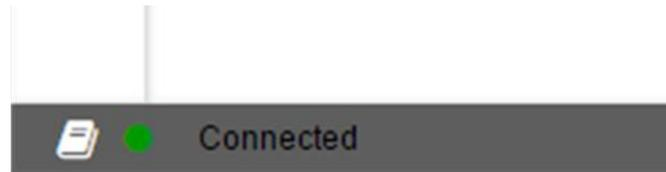

Figure 3. DRV8847x EVM GUI (COM Opened)
Step 6. Make sure that the GUI shows the *Connected* status after the GUI connects (see Figure 3).